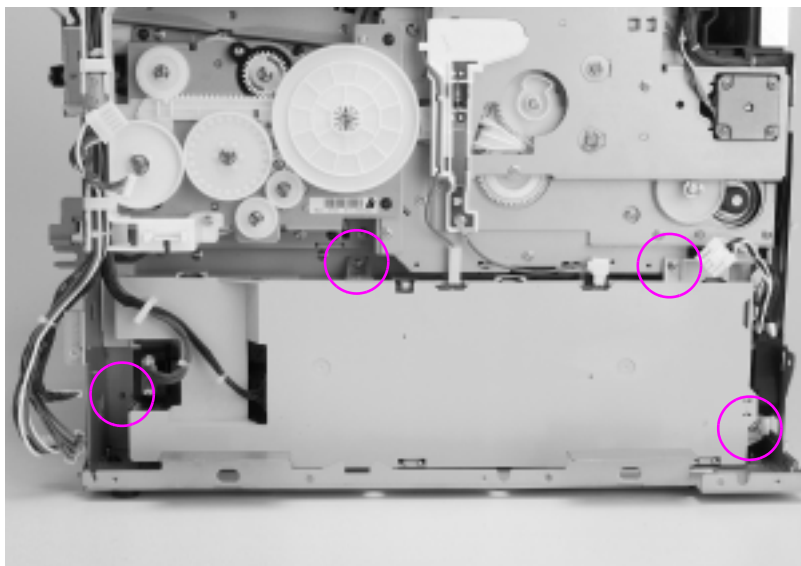

Figure 6-30 High voltage power supply removal and replacement
- 7 Remove the four screws shown in Figure 6-30 from the high-voltage power supply (HVPS).